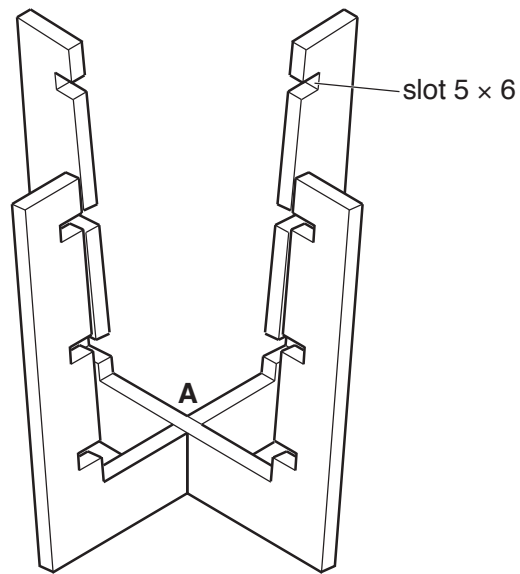

Fig. 13
- (b) Fig. 13 shows details of the two frames of the desk tidy. The frames are joined at **A** by means of a cross-halving joint.